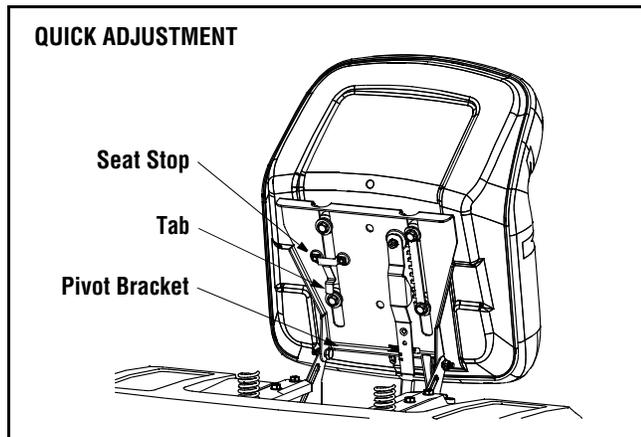

Figure 3
Refer to Figures 3 and 4 to identify your tractor's seat style and follow applicable instructions.
**NOTE:** If your seat was shipped mounted backwards on the seat pivot bracket, pull out the tab found on the seat stop and hold it open while sliding the seat off the seat pivot bracket. See Figure 3.
- Slide seat in until front seat spacer engages the seat stop. See Figure 3.